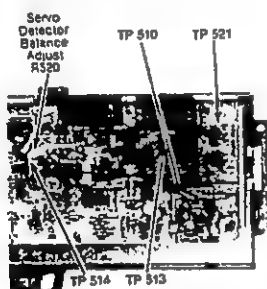

Fig. 4-1. — Servo Detector Balance Adjust
2. Connect DVM from TP 513 to TP 514 (Fig. 4-1).